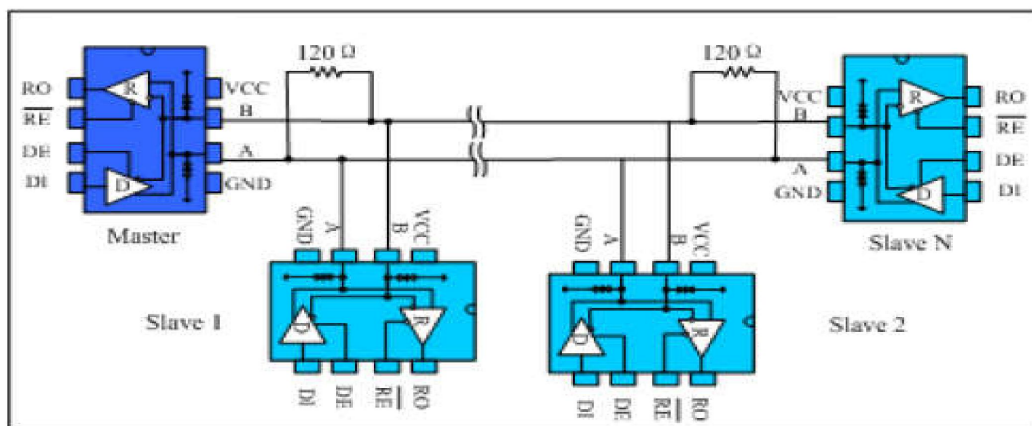

Fig. 9 Bus-type RS485 half-duplex communication network
**4.1 Bus networking:** The MAX1487ECSA-TD RS485 transceiver is designed for bidirectional data communication on multi-point bus transmission lines. Figure 9 shows a typical network application circuit. These devices can also be used